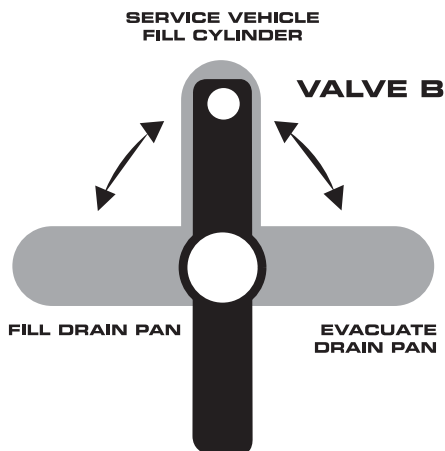

Figure 43. Valve B Control Positions
3. Set VALVE B (on the side of the unit, see Figure 43) to SERVICE VEHICLE, FILL CYLINDER.
3. Set VALVE B (on the side of the unit, see Figure 43) to SERVICE VEHICLE/FILL CYLINDER.